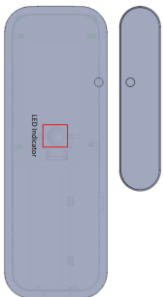

Figure 3
3. Use provided double-sided tape on the magnet. Make sure the alignment of both sensor and magnet are facing each other (Figure 3). Press firmly and hold in place for a few seconds.